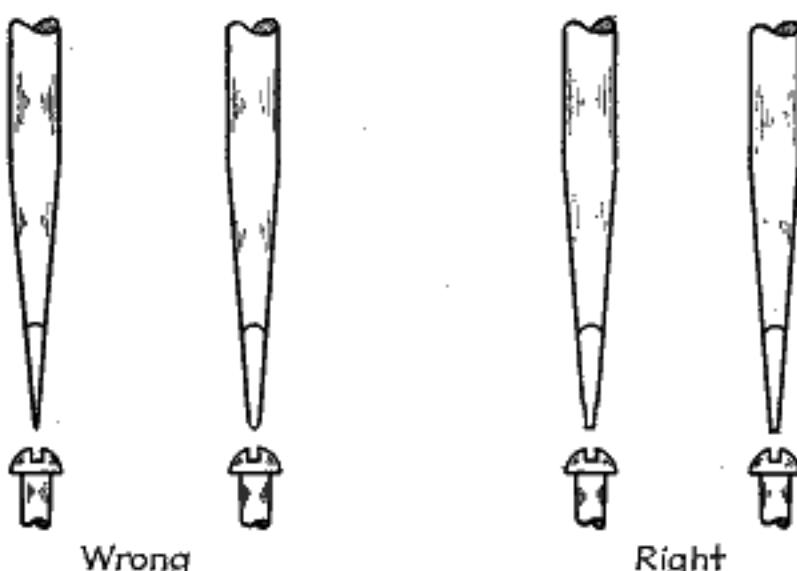

FIG. 137.—Right and wrong shapes of screw-driver ends.
**150. Screw Drivers.**—A screw driver should be ground to a very blunt end with the sides perfectly straight or slightly hollow or concave, never convex (see Fig. 137). The end of the blade should fit the slot in the head of the screw snugly. If the end is ground to an edge like a knife, it will easily slip from the slot and mar the screwhead.